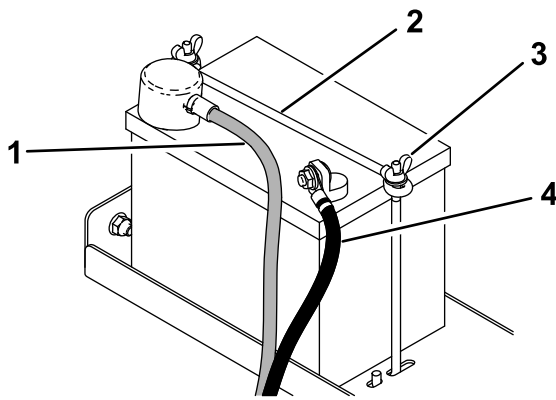

Figure 34
3. Remove the negative battery cable from the battery (Figure 34).
4. Remove the positive battery cable from the battery (Figure 34).
5. Remove the 2 wing nuts, securing rod, and the battery (Figure 34).
1. Place the battery on the platform and secure it using the 2 wing nuts and the securing rod (Figure 34).
2. Install the positive battery cable to the battery (Figure 34).
3. Install the negative battery cable to the battery (Figure 34).